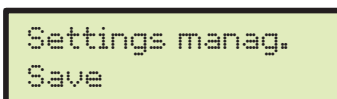

Fig. 80
- Select **Save** (Fig. 80) and press **OK**;